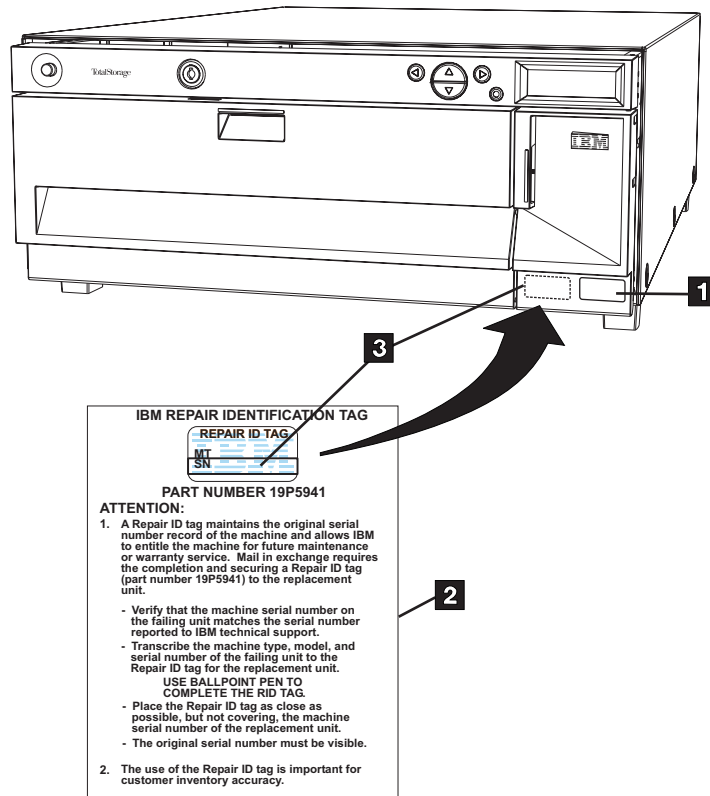

Figure 100. Repair Identification Tag
- ___ 1. Locate the Repair Identification (RID) tag (included with the replacement library). See **3** in Figure 100.
- ___ 2. Read the instructions (**2** in Figure 100) for the RID Tag.
- ___ 3. Copy the serial number (**1** in Figure 100) from the original I/O Door removed from your library onto the RID Tag.
- ___ 4. Affix the RID tag to the replacement library (near, but not covering, the serial number on the library). See **3** in Figure 100.